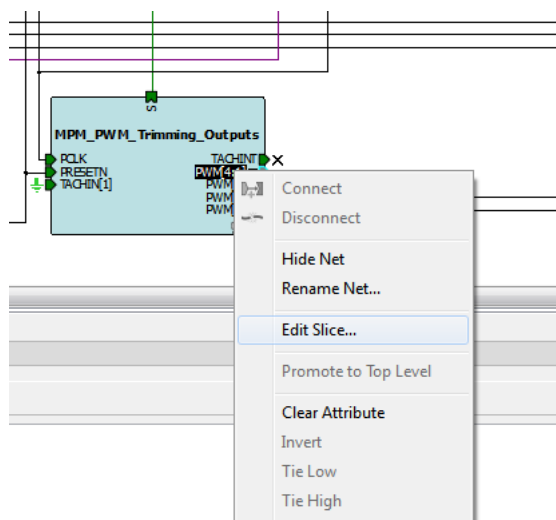

**Figure 35 • Selecting Low Ripple DAC Mode**
2. Current design has 3 PWM channels. After adding the new PWM channel, select Low Ripple DAC mode for channel 3 as shown in Figure 35.